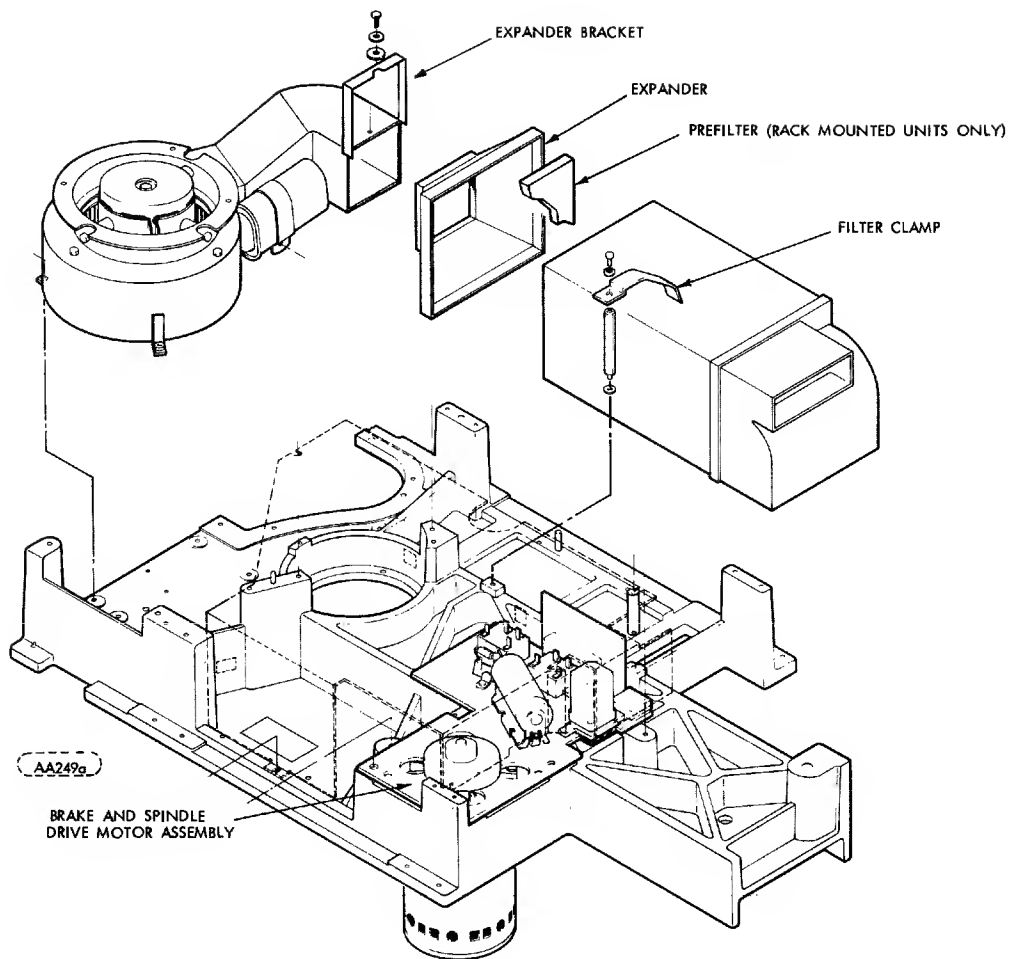

FIGURE 6-1. FILTER MOUNTING
6. Loosen filter clamp (Figure 6-1) and swing clamp clear of filter.
3. Loosen filter clamp (Figure 6-1) and swing clamp clear of filter.